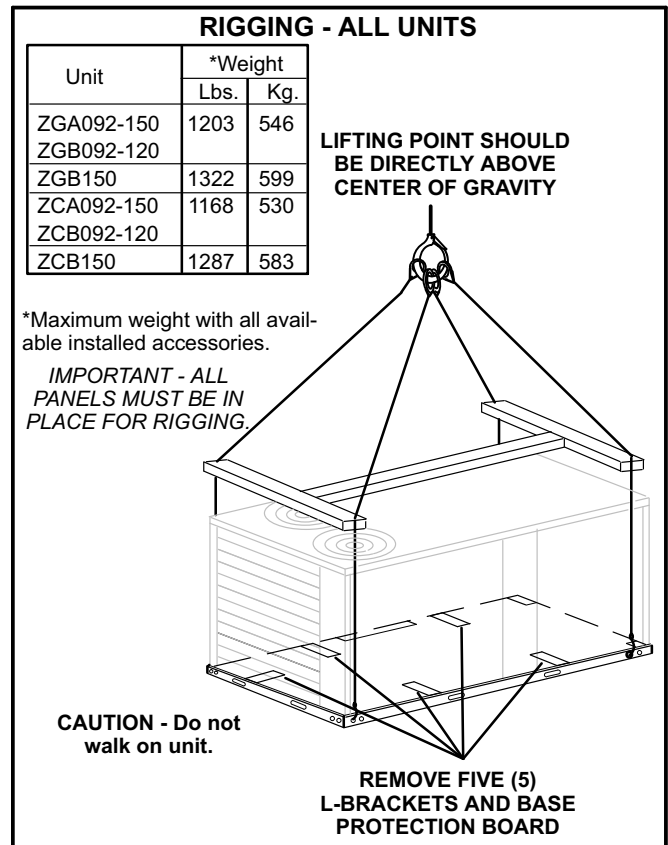

FIGURE 4
Rig unit for lifting by attaching four cables to holes in unit base rail. See figure 4.
- 5- **All Units -** Partially lift unit and remove five (5) L-brackets which secure the protective base board. See figure 4.